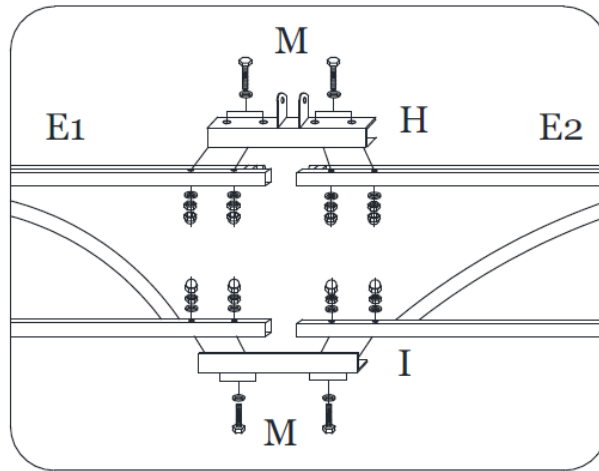

Figure 1
Step 1: Attach the Short Cross Beam (E1) to the Short Cross Beam (E2) using the Top Connector Plate (H) and Bottom Connector Plate (I) using Bolt, Washers and Nut (M). See Figure 1.